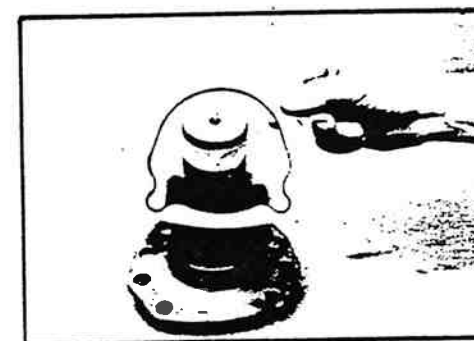

Figure 11-93. Side Cover Gasket.
44. Apply clean grease to the new side cover gasket (48) and assemble it onto the side cover (42). There must be enough grease to hold the gasket in place (figure 11-93).